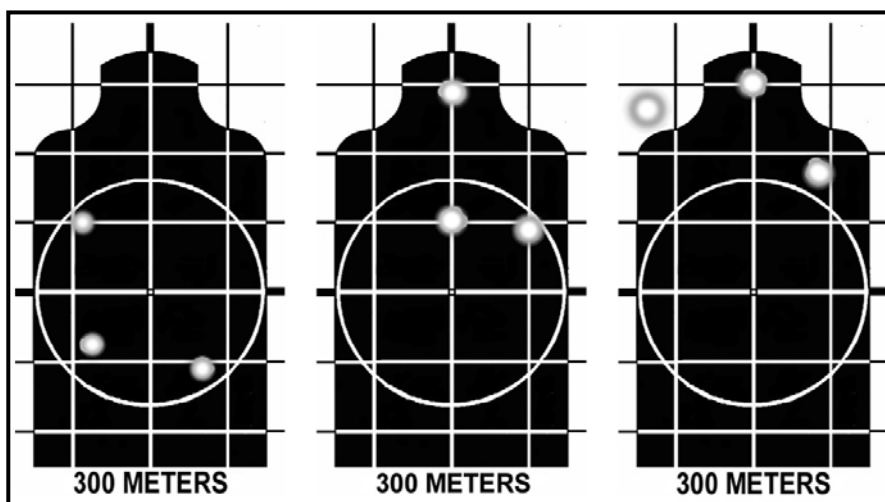

Figure 5-7. Shot groups indicate minor shooting error.
(3) **3-Centimeter Shot Groups.** The targets shown in Figure 5-7 represent minimum acceptable firing performances. A better firing performance should be expected, and the instructor-trainer should ensure the soldier is properly applying the four marksmanship fundamentals. He should explain that this shot group size is not due to weapon or ammunition performance. The placement of shots in these groups (about 3 centimeters apart on the target) reflects minor shooting error. Any of these three shot groups could have been a minor change in sight picture, breathing, trigger squeeze, position or an erratic round.